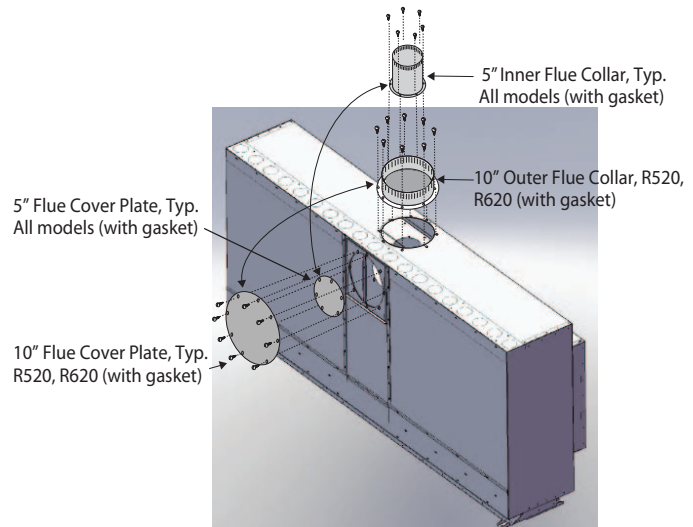

Figure 10. Flue cap installation, Top Vented fireplace.
3. Now, remove the Top vent (5" inner and 8" or 10" outer) flue Collars. Switch the Collars and Cover plates as shown in, **Figure 10**.